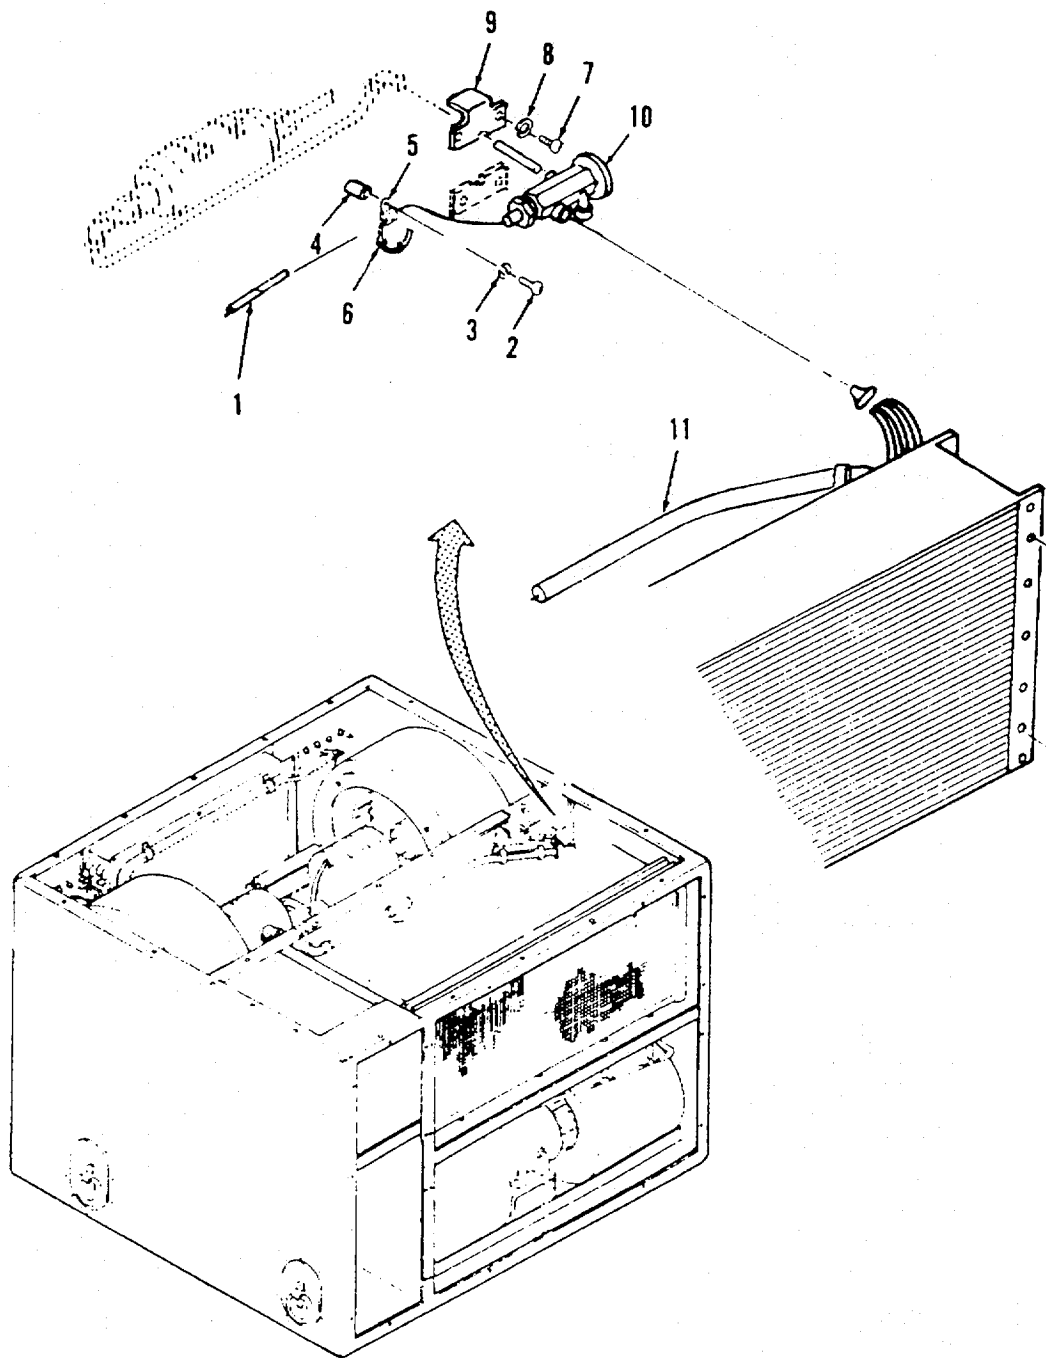

Figure 4-20. Expansion Valve.
**a. Test.** (Refer to Figure 4-20).
- (1) Perform a refrigerant pressure check on unit in accordance with para. 4-6. Leave gages or service manifold attached.
- (2) Remove the suction line insulation from the area of the sensing bulb (1). Observe location and position of bulb for reinstallation.
- (3) Remove screw (2), lock washer (3), and post spacer (4) holding clamp (5) on sensing bulb (1).
- (4) Remove cable ties (6) from capillary of sensing bulb (1).
- (5) Place mode selector switch to COOL mode and set temperature control to maximum COOL. Run unit for a minimum of 30 minutes.
- (6) Place the sensing bulb (1) in a container of ice water or crushed ice so that it is reduced to a temperature of 32° F (0 °C) and a gauge reading of 41 psi.
- (7) Remove sensing bulb from ice water and check that gauge reading quickly increases.
- (8) If gauge readings on either test are incorrect, replace expansion valve.
**b. Removal.** (Refer to Figure 4-20).
- (1) Remove two screws (7), two lock washers (8), and block off plate (9).
- (2) Restrain expansion valve (10).
- (3) Debraze tubing attached to expansion valve (10) (see para. 4-7).
- (4) Unwrap existing suction line insulation from around sensing bulb (1) and remove expansion valve (10) from unit.